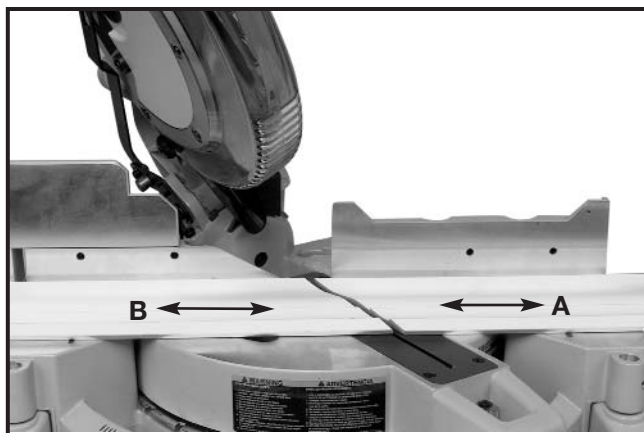
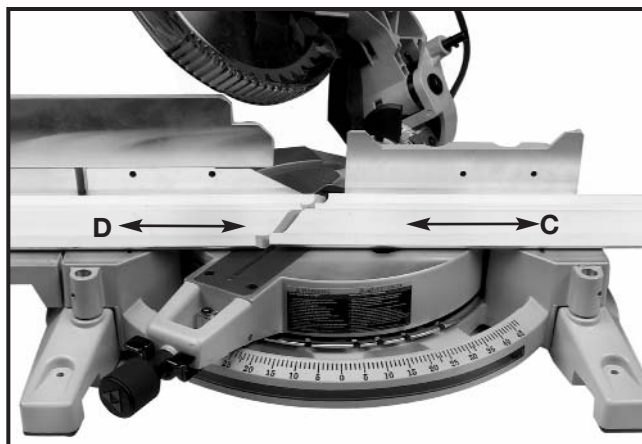
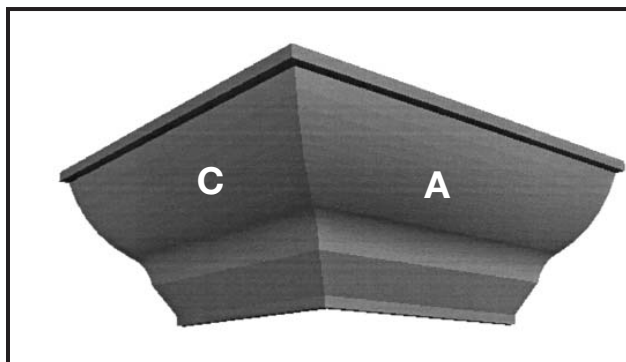
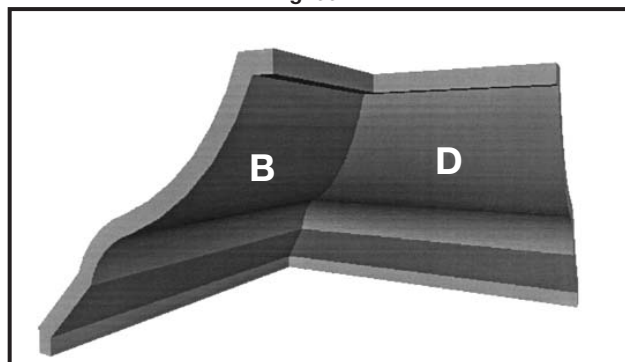

Fig. 32
Fig. 33
Fig. 34
Fig. 35
3. Place the crown moulding on the table with the **CEILING EDGE** of the moulding against the fence, and make the cut, as shown in Fig. 32.
**NOTE:** The piece of crown moulding used for the outside corner will always be on the right hand side of the blade, as shown at (A) Fig. 32. The piece of crown moulding used for the inside corner will always be on the left hand side of the blade, as shown at (B) Fig. 32.
5. Place the crown moulding on the table with the **WALL EDGE** of the crown moulding against the fence and make the cut. Again, the piece of crown moulding used for the outside corner will always be on the right side of the blade, as shown at (C) Fig. 33. The piece of crown moulding used for the inside corner will always be on the left side of the blade, as shown at (D) Fig. 33.
6. Fig. 34 illustrates the two outside corner pieces; the piece cut at (A) Fig. 32 and the piece cut at (C) Fig. 33.
7. Fig. 35 illustrates the two inside corner pieces; the piece cut at (B) Fig. 32, and the piece cut at (D) Fig. 33.